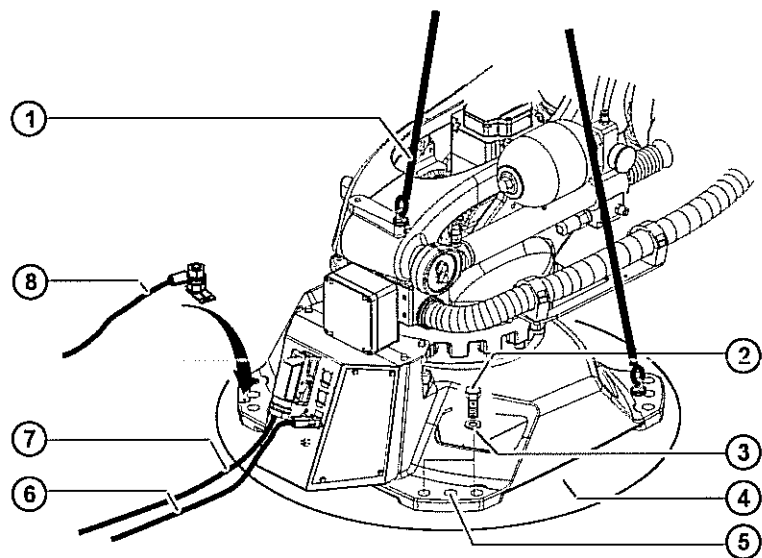

Fig. 13-2: Removing the robot
4. Secure the robot by activating the E-STOP device and then shut down the robot (>>> Fig. 13-2).